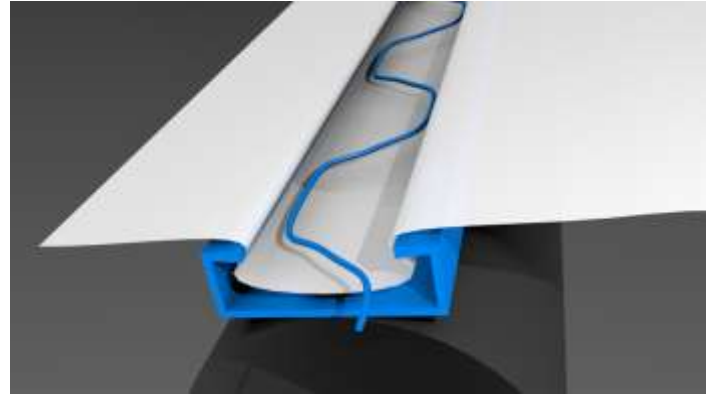

Fig 8.1 Wire Lock / Film Installation
- Lay film over the Wire Lock channel, and fasten the plastic into the channel by placing the wiggle wire into the channel on top of the plastic(Fig 8.1).